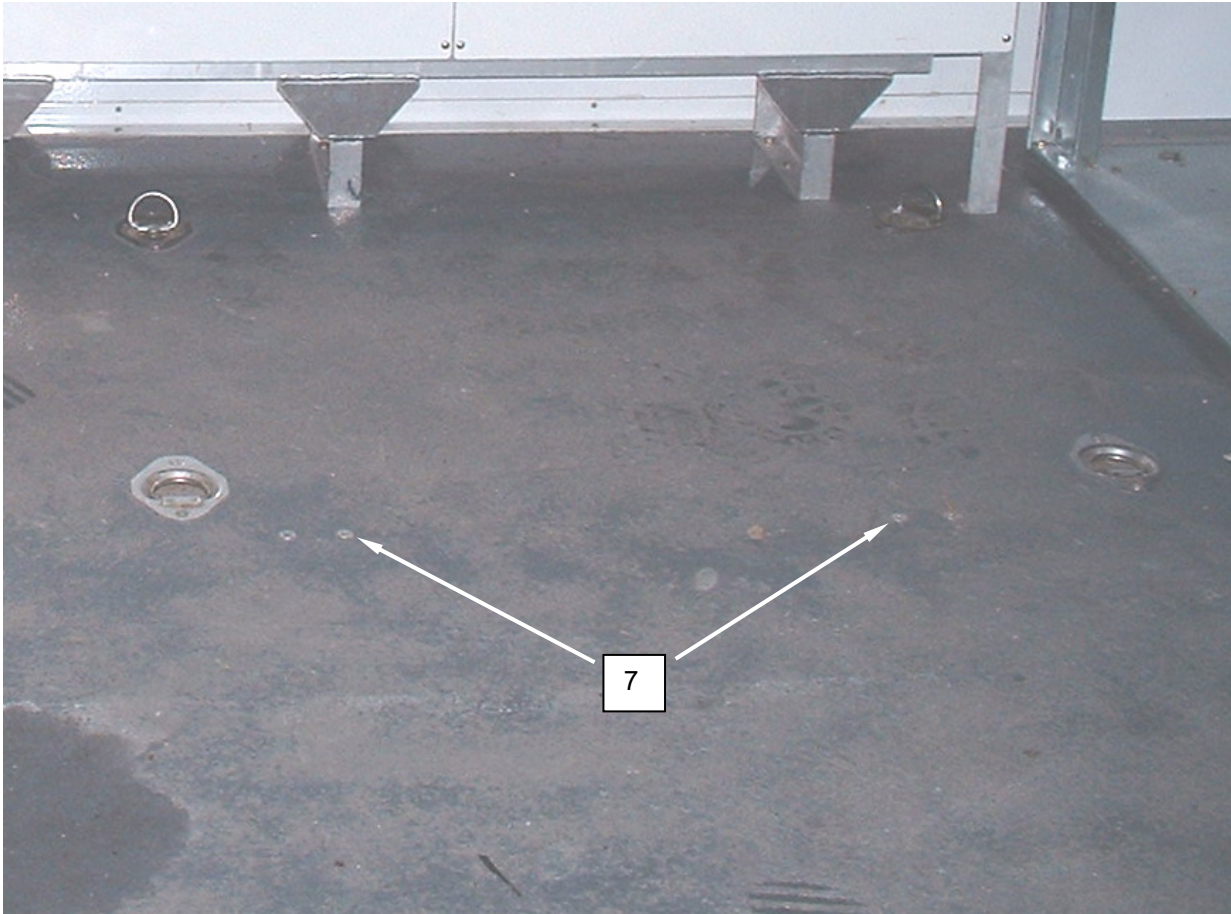

Figure 7. Remove the Two Cross-Point Screws.
11. Remove the two cross-point screws (**Figure 7, Item 7**) from the centerline and the front of the CBL interior to prepare for later installation of packing bracket.